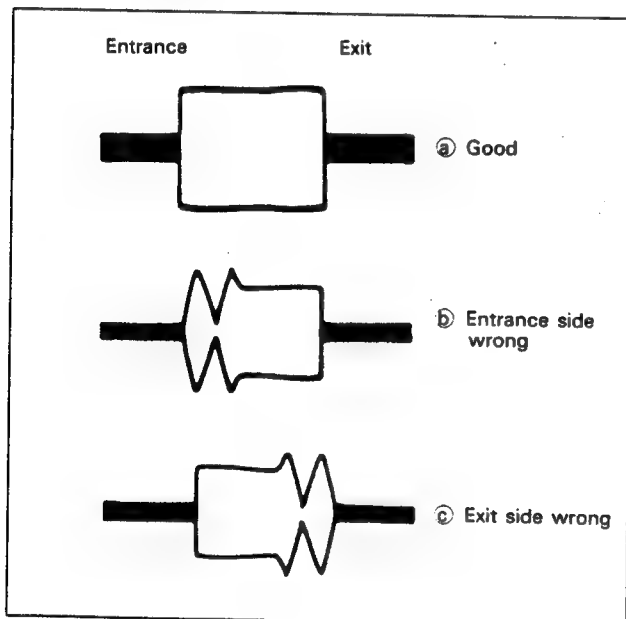

Fig. 2-37.
- 5) Verify on the scope that waveforms at entrance and exit are flat (See Fig. 2-37, a).
If not (See Fig. 2-37, b and c), take the following step.